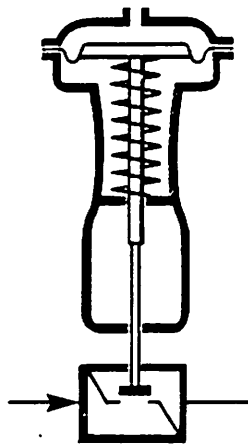

Figure 27. Valve with Air-to-Lower Actuator Showing Air-to-Close (ATC) Action
4.7.1 Air-to-Lower Actuator with Push-to-Close Valve (ATC), Figure 27